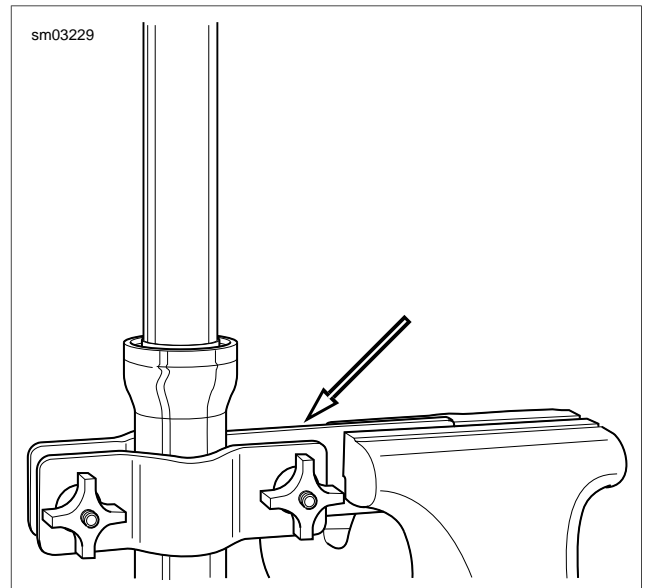

Figure 2-82. Fork Holding Tool (HD-41177) (mounted vertically to slider)
1. See Figure 2-82. Clamp fork tube and slider assembly in FORK HOLDING TOOL (Part No. HD-41177) and mount in vise.